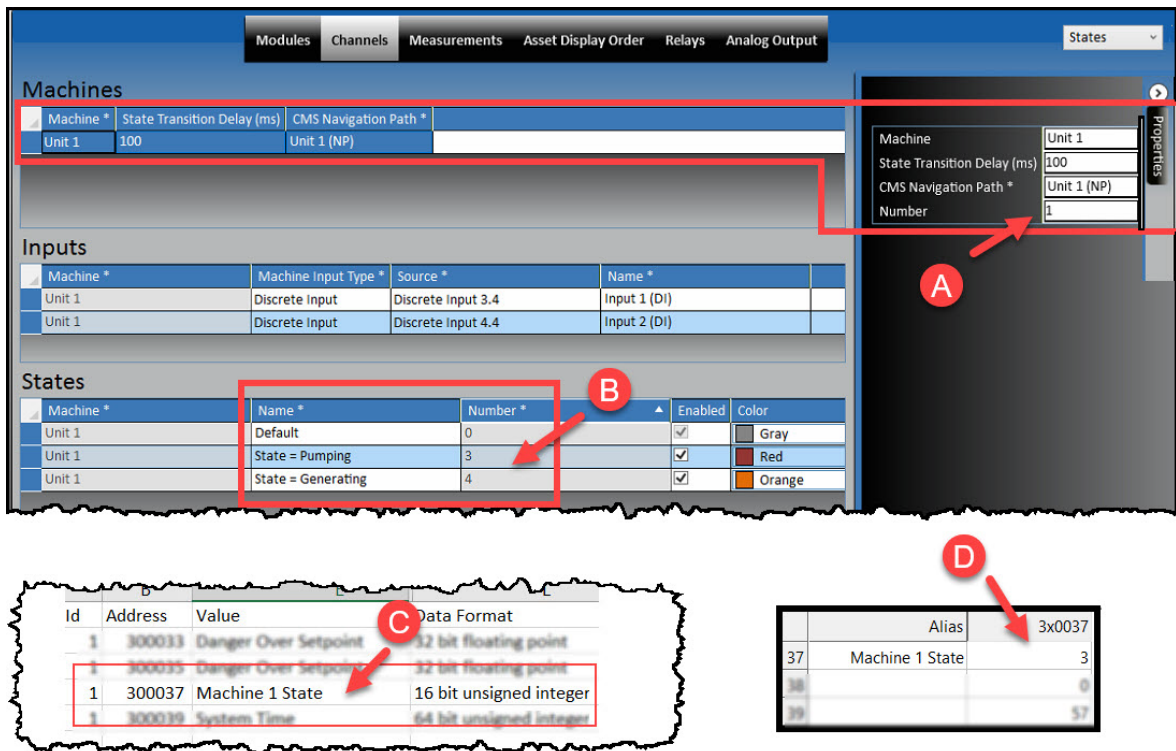

Figure 9-5) Machine Number (Modbus)
You can also verify the machine-state using Modbus (**Figure 9-5**). Each machine defined in the configuration has a unique ID number (A) shown in the Properties pane. The value of the register will contain the unique ID number of the machine-state (B). The Modbus map (C) will list the machines by their ID number.
Read the Modbus register (D) to see the machine-state ID number. In the example here (**Figure 9-5**), register 30037 shows that the current machine-state for Machine 1 = 3 (Pumping).